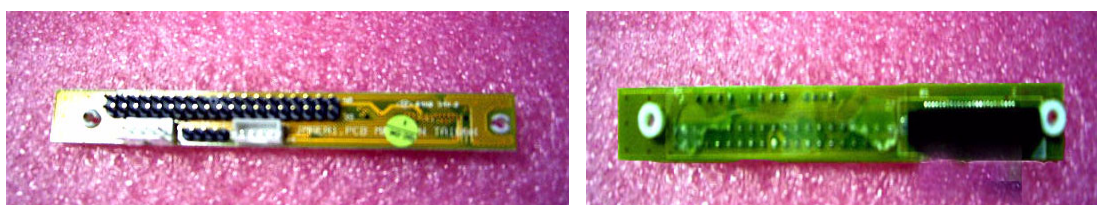

Figure 2.8 Small converter for slim-type optical disk drive
3. Fasten the small converter board (in the accessory package of the slim-type ODD) onto the rear of the slim-type optical disk drive by tightening the two screws provided (See Figure 2.8).